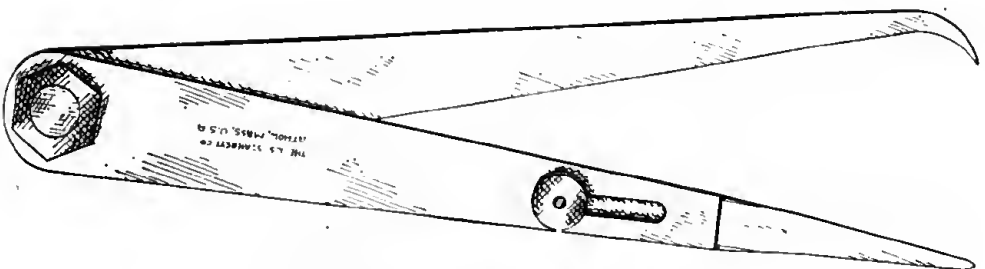

Figure 68. Hermaphrodite calipers.
d. HERMAPHRODITE CALIPERS. (1) Hermaphrodite calipers should have a point on one arm and a bearing surface on the other. (See fig. 68.) They are used to scribe an arc or a line parallel to the edge of a piece of stock.